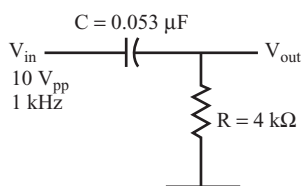

FIGURE 6.53
1. Use the circuit shown in Figure 6.53.